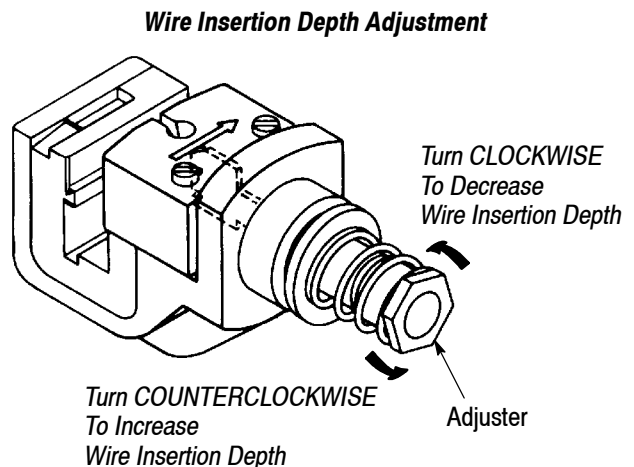

Figure 5
2. Turn the adjuster one-sixth of a revolution *clockwise* if the wire is too deep in the contact, and *counterclockwise* if the wire is not deep enough in the contact. Refer to Figure 5. This will decrease or increase the wire insertion depth by approximately 0.20 [0.008].